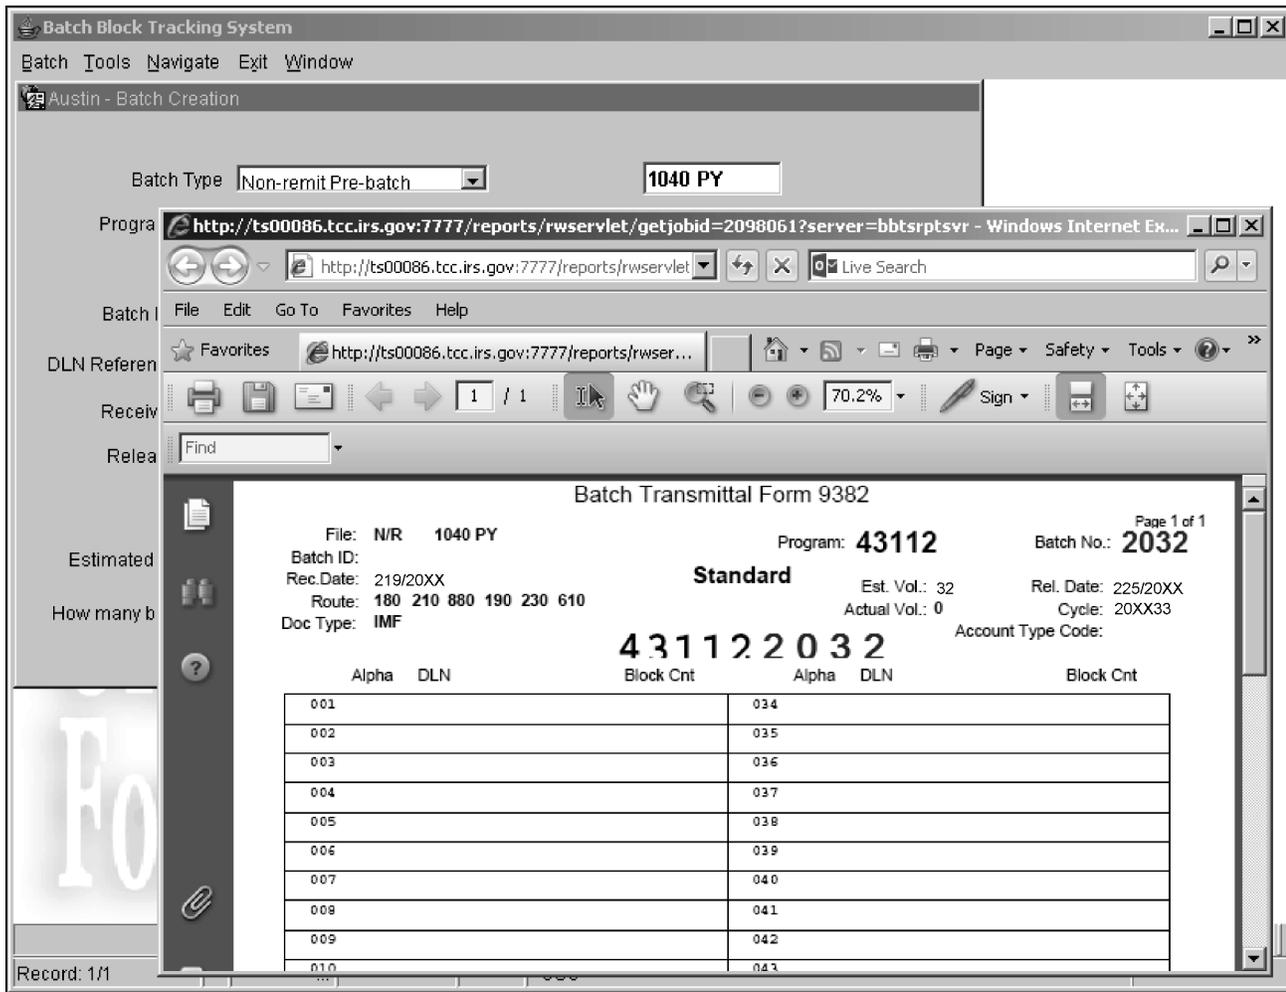

Figure 3.10.5-27 Generated Batch Transmittal
6. A pop-up window appears with the following message: "Did the Form 9382 report(s) print correctly?" See Figure 3.10.5-28